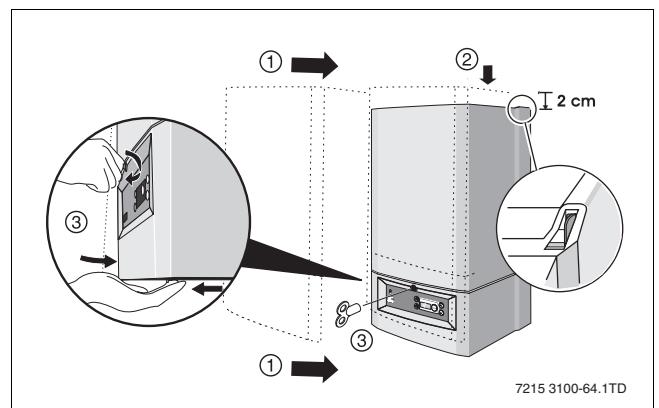

Fig. 64 Refit casing
- Refit the casing and secure the boiler with the radiator key (\rightarrow fig. 64).